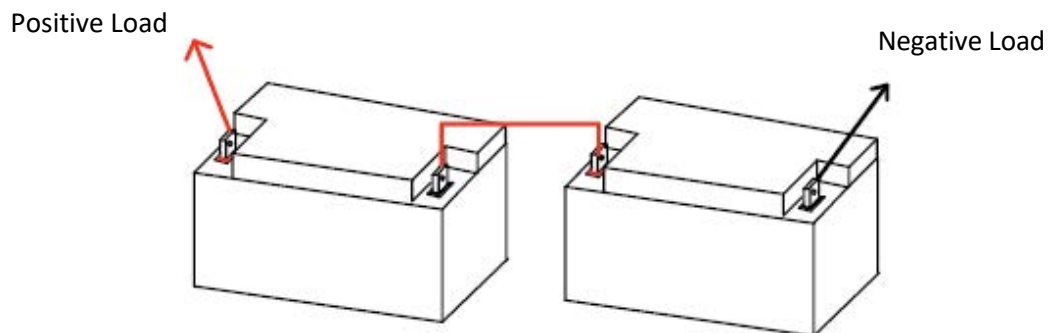

Figure 4: Two 10012|10012H Batteries Connected in Series to create a 24V 100Ah Battery Bank
When batteries are connected in series, current capacities remain the same, but the system voltage is additive. For example, two BB10012|BB10012H batteries connected in series form a nominally 24V system (shown in Fig. 4) and should be charged using a bulk and absorption voltage of 28.8V, and a float voltage of 27.2V.
7. Repeat steps 3-6 for additional batteries, but **DO NOT** exceed 48V. An example of a correct series connection can be found below in Fig. 4.